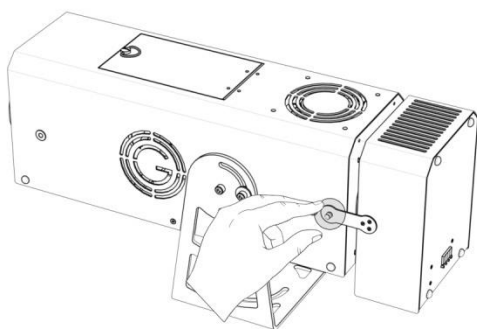

Fig. 3
1. Unscrew the knob of the power of the body mounting plate to the main body of the projector as shown in Fig.3, the power to rotate on the hinge body.